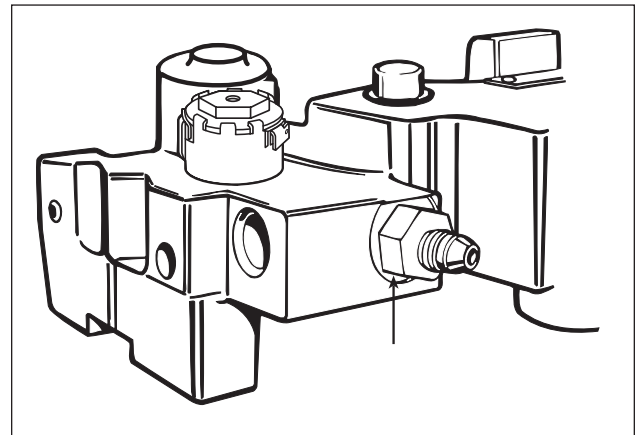

FIG. 12
2. Install the O-ring adaptor into the front housing in the location shown in Figure 12. Tighten the O-ring adaptor as follows: